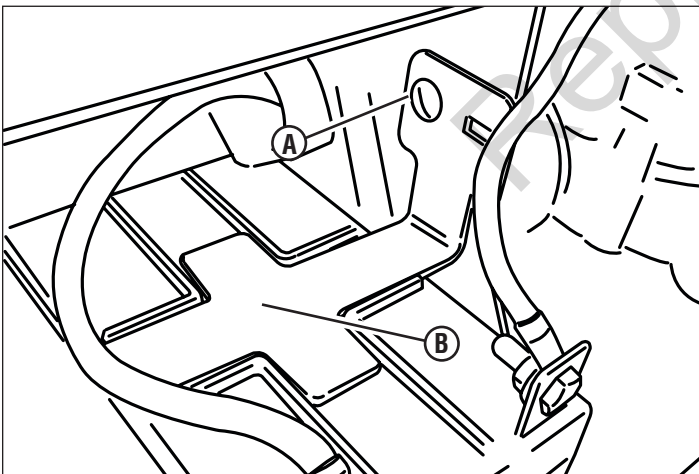

Figure 17
- B. Remove the hardware (A, Figure 17) securing the battery hold-down bracket (B), and remove the bracket.